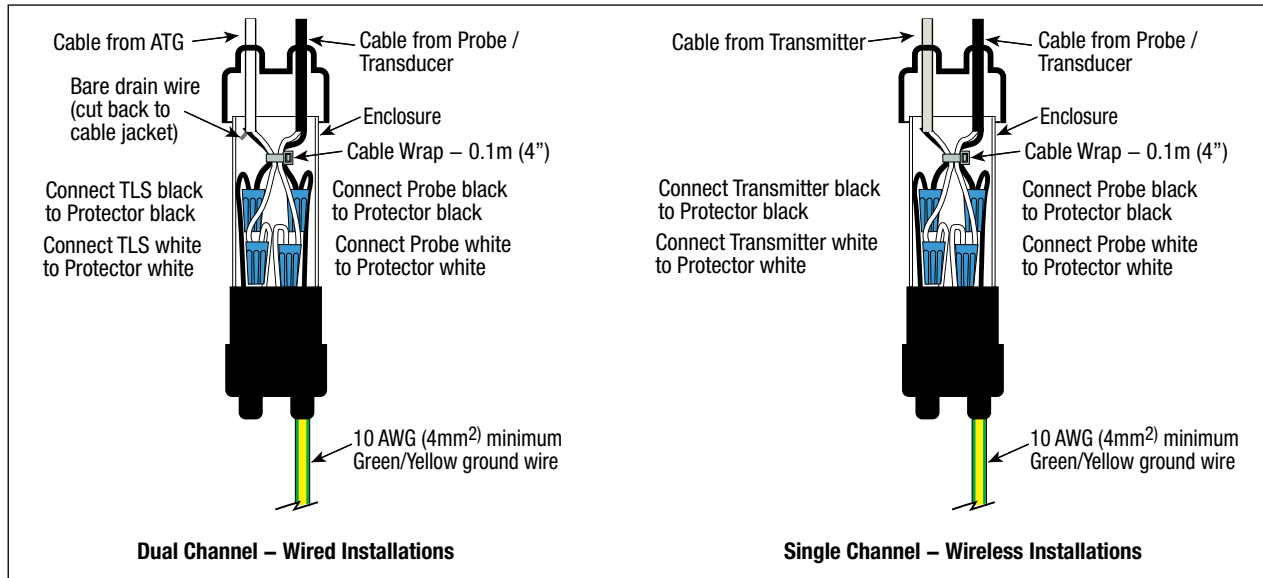

Figure 13. I.S. Circuit Splice Connections
- Connect incoming cable wires to the protector wires using wire nuts as shown in Figure 13. Cut off the TLS cable's bare shield wire at the cable jacket.
- Use the 0.1m [4"] cable wrap to hold the cables together (see Figure 13).